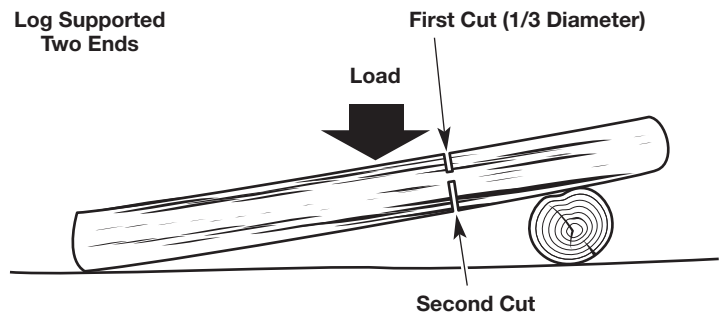

Fig. 30
- If the log is supported on two ends (Fig. 30), make the first cut from above (overbucking). Refer to *Overbucking*.